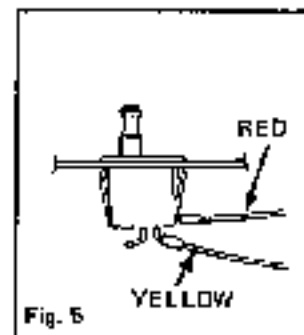

Fig. 5
21. Reconnect rear light and seat interlock switch. See Fig. 5 for seat switch connection.